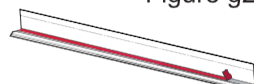

Figure g3
- Clean the top surfaces of the car and allow to dry. Remove the red backing tape from the underside of aluminium rails **See Figure g3**